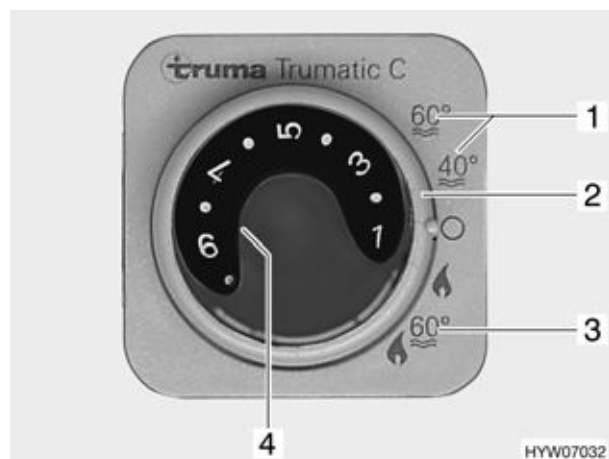

Fig. 136 Operating unit for heater/boiler
The boiler is integrated in the heater system and operates on gas. It is switched on by turning the rotary switch (Fig. 136,2) on the operating unit (Fig. 136).
In winter operation "Heater and boiler" (Fig. 136,3) the water is automatically heated up when the heater is switched on. If the heater switches off after the required room temperature has been reached the boiler will continue to heat up until the set water temperature has been reached.
In summer operation (Fig. 136,1) only the water in the boiler is heated up to either 40 °C or 60 °C. It takes approx. 1 hour to heat the water to 60 °C. The yellow indicator lamp (Fig. 136,4) comes on during the boiler heating-up period.
- Set the rotary switch (Fig. 136,2) on the operating unit (Fig. 136) to "Summer operation" (Fig. 136,1).
The yellow indicator lamp (Fig. 136,4) is illuminated during the heating up period. When the set water temperature is reached, the period of heating up is finished and the yellow indicator lamp fades.
- Set the rotary switch (Fig. 136,2) on the operating unit (Fig. 136) to "OFF".